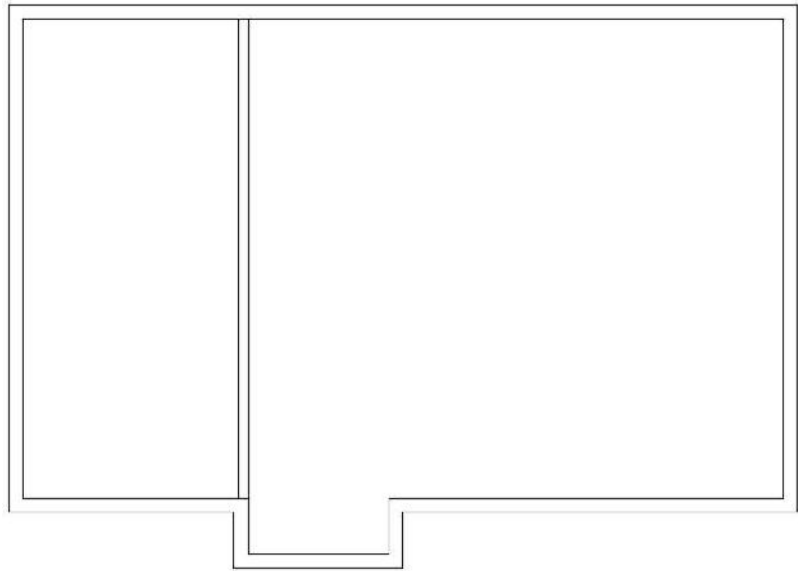

FIGURE 4.14: The first interior wall
8. Click the new line that was just offset, and then click in a blank area to the right of that line. You have created a vertical interior wall (see Figure 4.14).